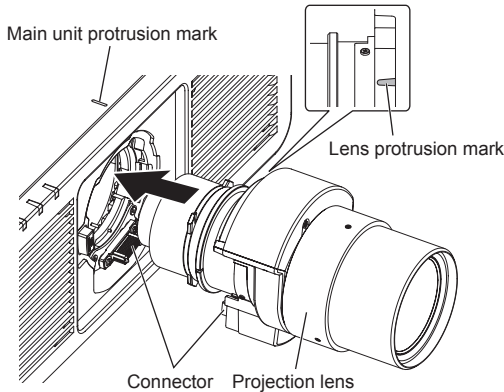

Fig. 1
- 1) **Align the protrusion mark on the projection lens with the protrusion mark on the main unit and insert it all the way (Fig. 1).**